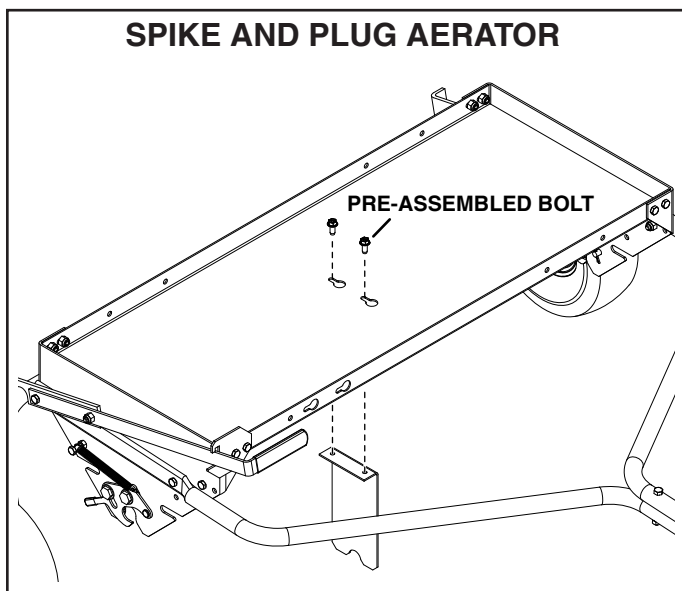

FIGURE 10
2. For spike and plug aerator tools, the center brace should be attached to the middle of the Smartlink Platform as shown in figure 10. **Do not tighten yet.**